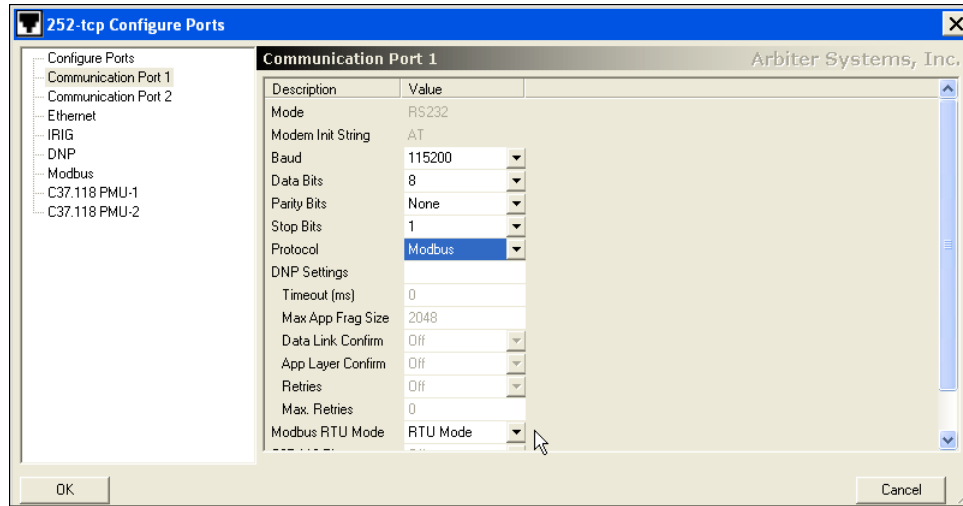

Figure 7.7: Selecting MODBUS in COM 1 Settings
1. Open the Configure Ports window and select the port you wish to use on the left panel. On the right panel choose Modbus protocol. The configuration screens for Communication Ports 1 and 2 differ somewhat from Ethernet. In Figure 7.7 below,
3. Notice that in Figure 7.7 that RTU Mode is selected. The other choice is ASCII Mode.